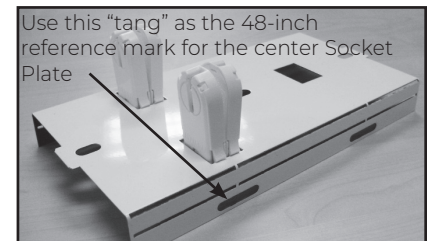
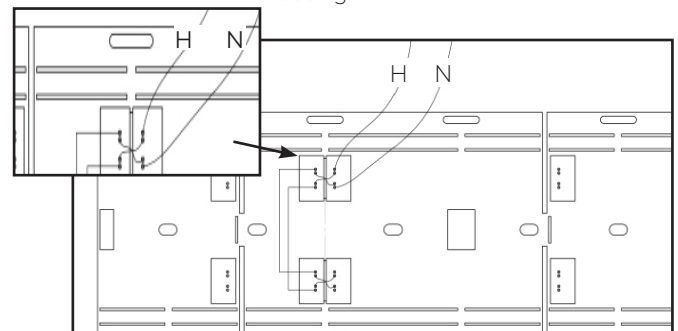

Figure 4: Locate the RetroFit "Center" Socket Plate on the 8-foot Luminaire Housing.
Figure 4a: Wiring diagram showing the incoming supply connection to the lamp holders and "jumped" to each port on the four (4) lamp holders.
11. To install the center section, find the center of the luminaire. Place a mark approximately 48-inches from the left or right end of the fixture housing. When you have located the center of the fixture housing, install the center section socket plate. Align the center section socket plate over the 48-inch mark using the two (2) lamp sockets as a guide. See Figure 4. Secure the center section socket plate using the self-tapping screws (included) through the slotted holes. Figure 4A shows the wiring connections from the incoming supply conductors and the respective terminations to each lamp holder on the socket plates.